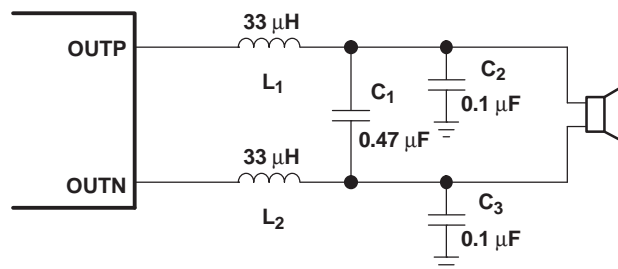
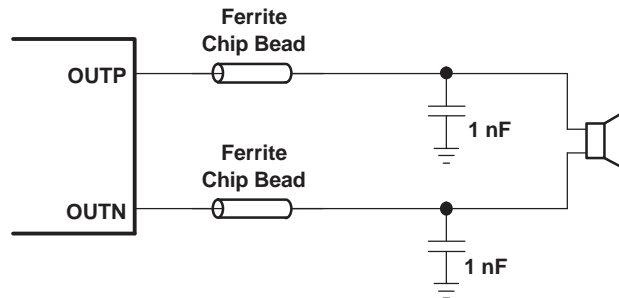

Figure 18. Typical LC Output Filter, Cutoff Frequency of 27 kHz, Speaker Impedance = 8 Ω
Figure 19. Typical Ferrite Chip Bead Filter (Chip bead example: Fair-Rite 2512067007Y3)
- Output filter—The ferrite EMI filter (Figure 19) should be placed as close to the output terminals as possible for the best EMI performance. The LC filter (Figure 18) should be placed close to the outputs. The capacitors used in both the ferrite and LC filters should be grounded to power ground. If both filters are used, the LC filter should be placed first, following the outputs.